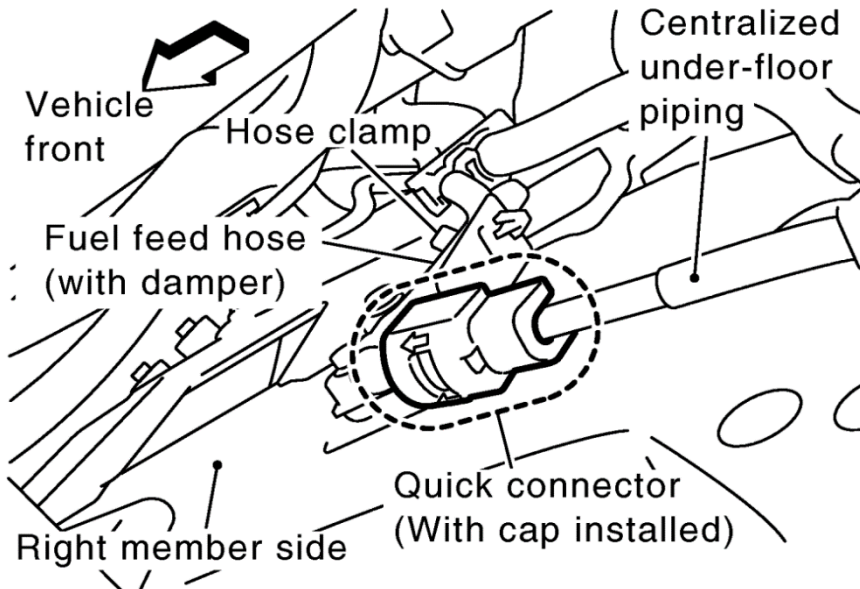

Figure 46
1. With the Z1 Fuel Return Kit, the Factory Fuel Feed Line will function as the return line back to the tank. The feed hardline will need to be disconnected from the rubber feed hose connected to the damper in the engine bay. The OE rubber hose connects to the OE hardline on the inside of the passenger side frame rail with a quick connector. Remove the plastic cover circled below, then separate the lines just like the one from *Step 9, FUEL PUMP REMOVAL*. *Figure 46*.